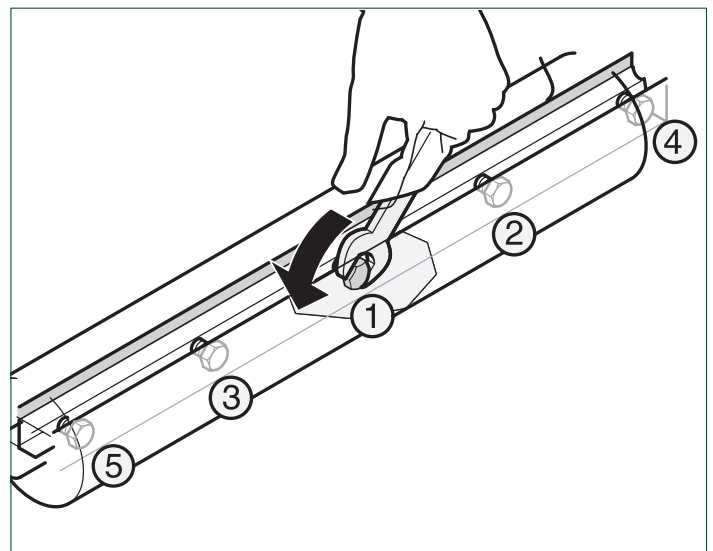

FIG. 20
10. To tighten the cutter knives, turn the five hexagon head screws of the cutter knife lockbar fully out. To prevent distortion of the cutter knife lockbar start with the screws in the centre , then tighten the screws closer to the edges step by step.(Fig.20)